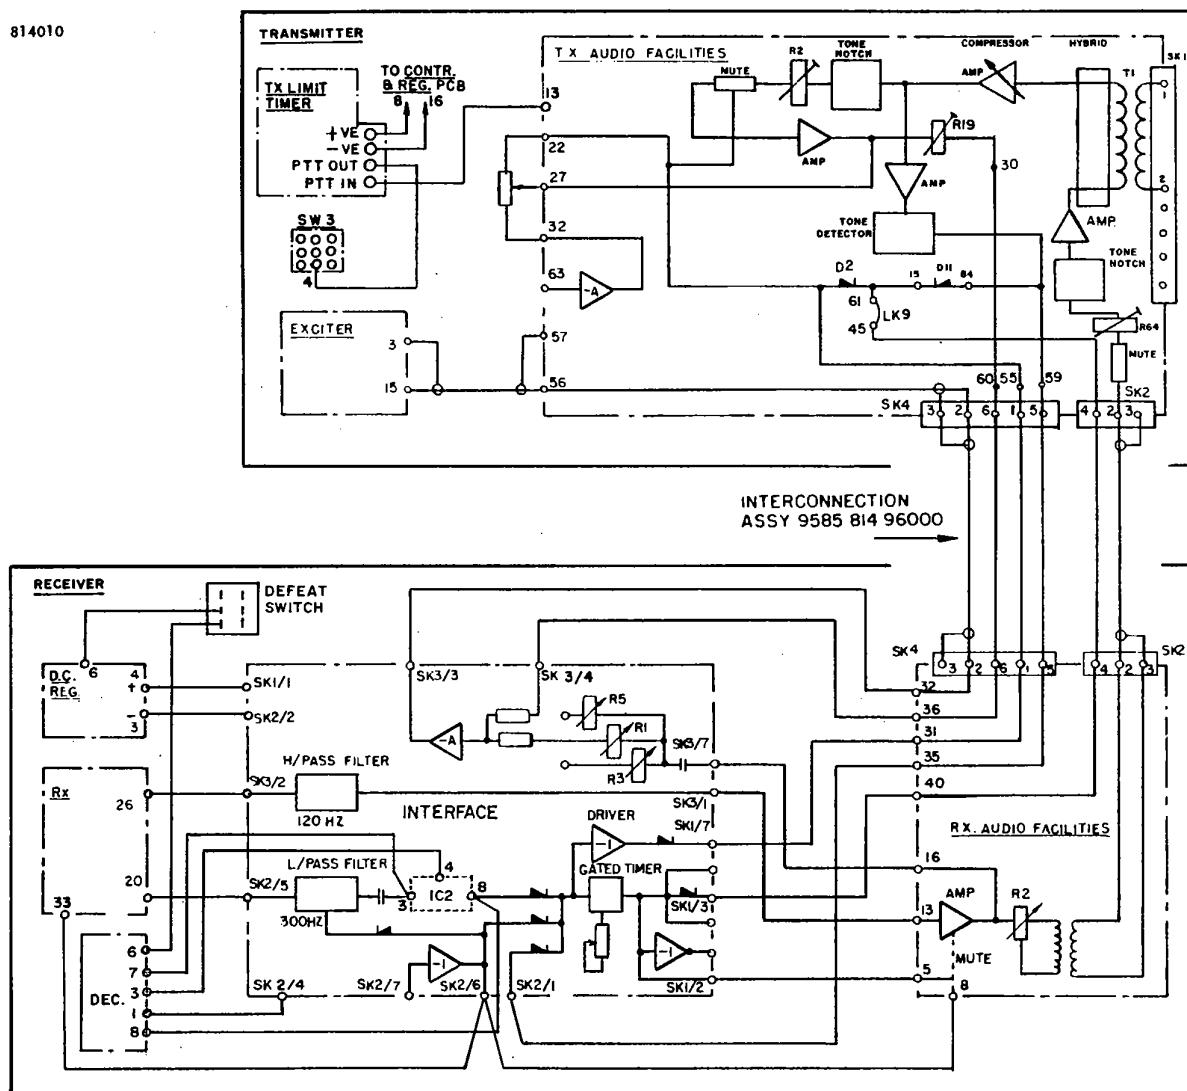
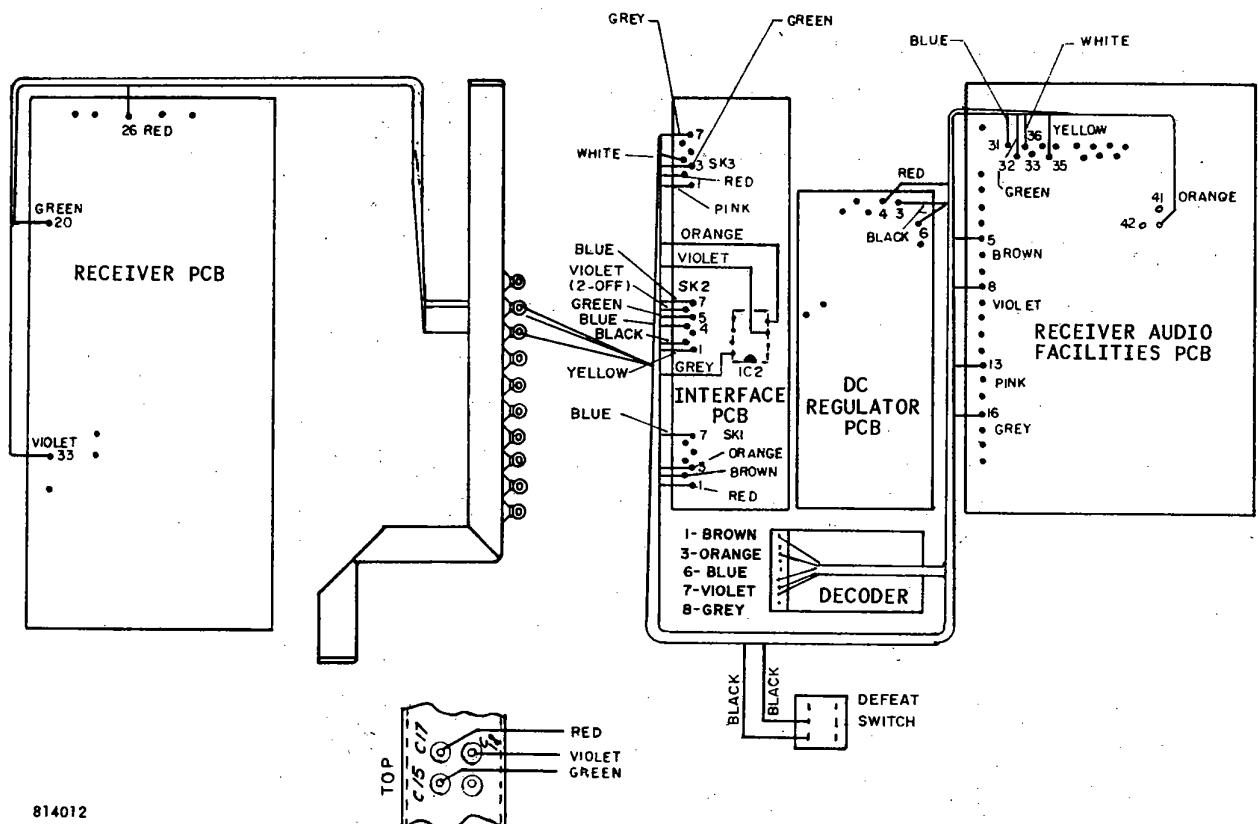
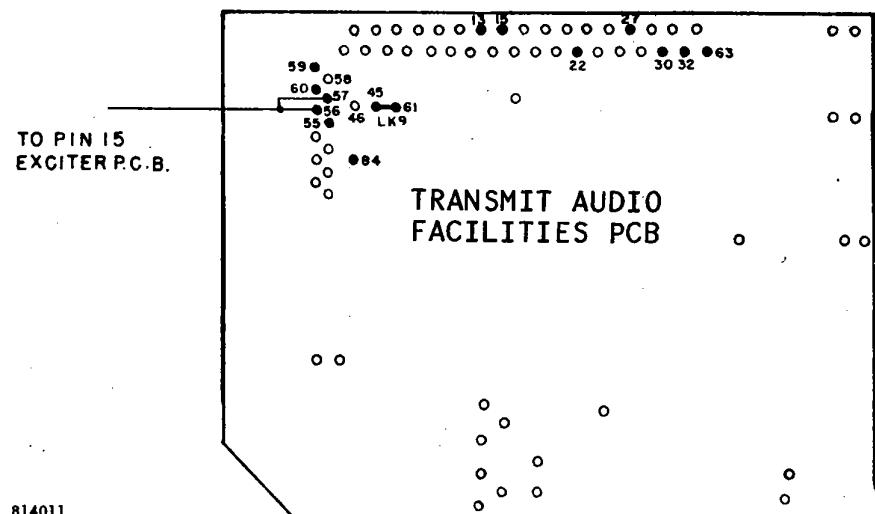

Figure 8.3. FM814 MK3 Interface Interconnection Diagram
Figure 8.1. FM814 Receiver Modification
Figure 8.2. FM814 MK3 Transmitter Modification
The Interface PC Board and loom are fitted into the Receiver and connected as detailed in (a) below and Figure 8.1. The Transmitter unit is modified as detailed in (b) with Figure 8.2 and the two units are then interconnected as shown in Figure 8.3 using Interconnecting Assembly 9585 814 96000.
- iv. Connect loom as shown in Figure 8.1.
(b) Transmitter Modification (Refer to Figure 8.2)
The Tx Limit Timer pc board and loom are fitted into the transmitter unit and connected as detailed below and in Figures 8.3 and 8.4.